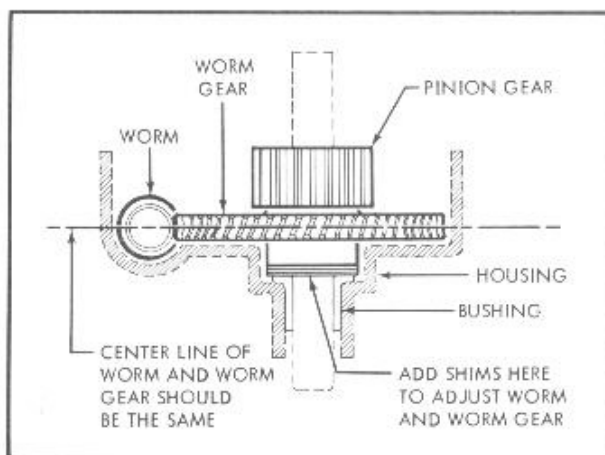
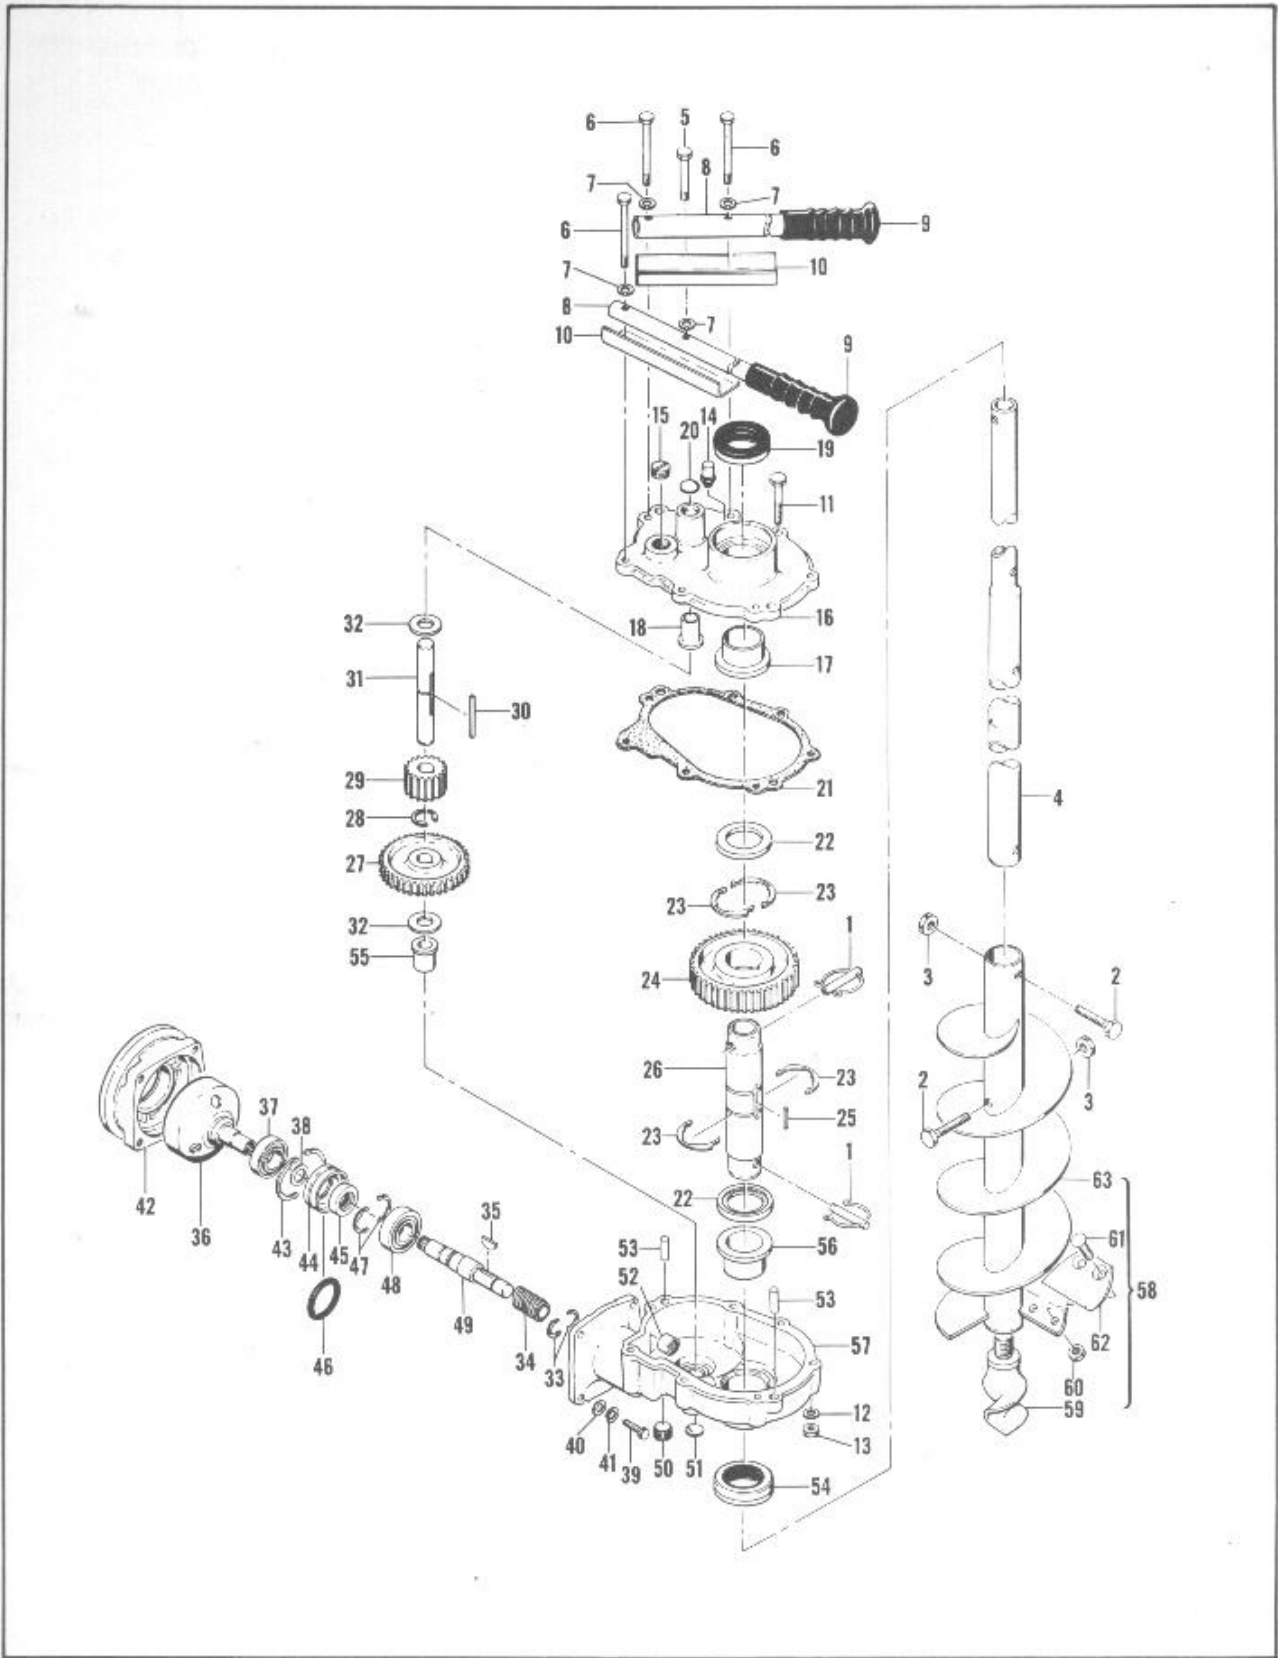

Figure 6. Gear Alignment
Figure 9. Earthdrill Attachment and Auger Assemblies
Six, nine, and twelve-inch diameter augers are available from your McCulloch Dealer. Repair parts for the earthdrill and the augers are shown in figure 9. The augers can be mounted close to the gear housing when drilling shallower holes or in an extended position for digging deeper ones.
After each 500 hours of operation, remove the gear housing cover and lift the output shaft out of the gear housing. Check the position of the worm gear in relation to the worm. They should mesh as shown in figure 6. If they do not, raise or lower the worm gear by adding or removing shims (item 32, figure 9) from between the worm gear and the bushing in the bottom of the gear housing.